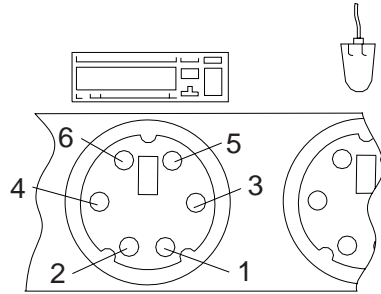

Figure 2-4. Keyboard Connector Voltage Check
- Check the voltage at the keyboard cable connector on the system board, shown in Figure 2-4 on page 2-38, after the POST.